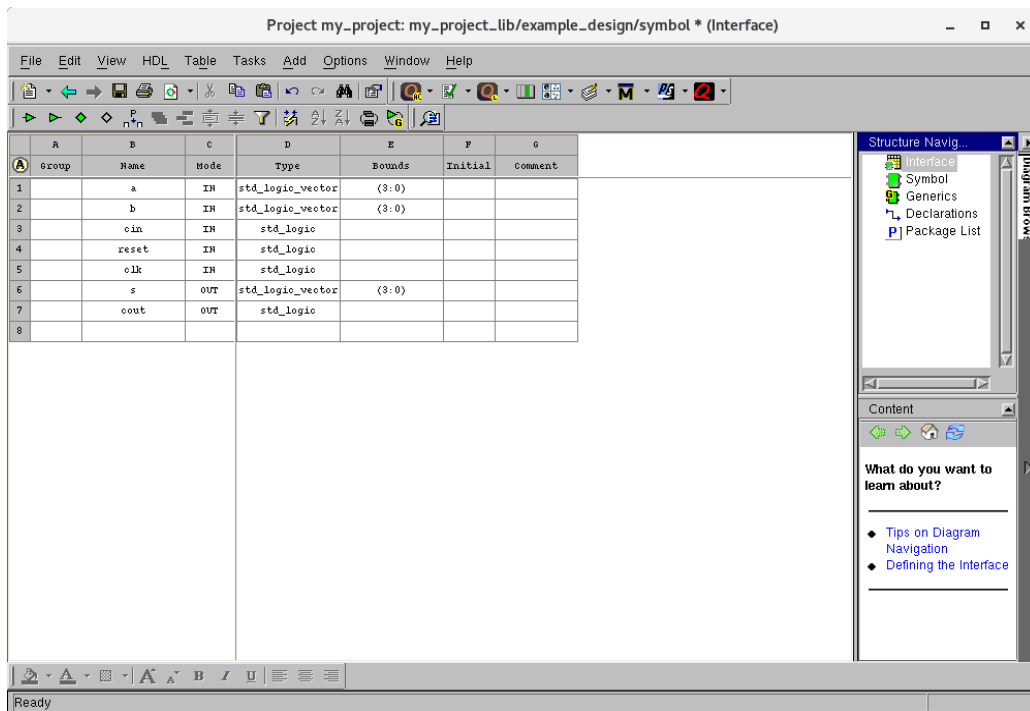

Figure 16 Symbol editor window with completed example_design interface
6. Edit the port definition to suit our definition. Double-click on the port text to edit the name and definition. Figure 15 shows the completed symbol. This can also be done using the textual interface window as shown in Figure 16 Symbol editor window with completed example_design interface.